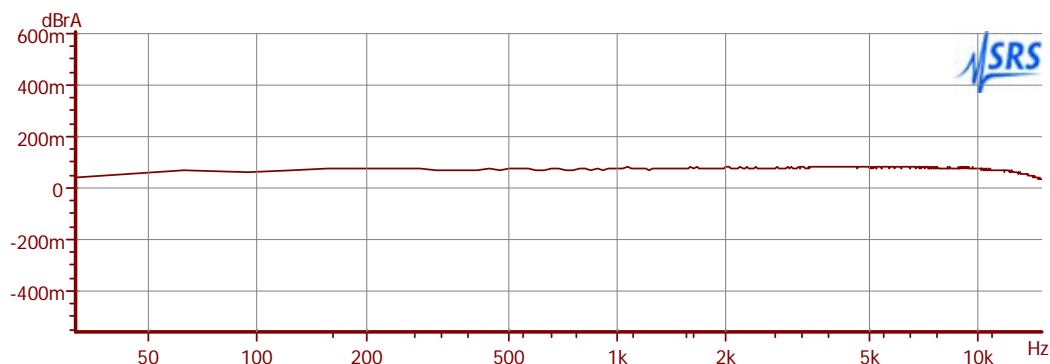

Figure 4-1: Typical Frequency Response, 30Hz to 15 kHz
- H) Using VR302, repeat steps (C) through (G) for the Right Analog Output.
- G) Verify that frequency response at 50 Hz, 100 Hz, 400 Hz, 5 kHz, and 15 kHz is within \pm 0.1 dB of the reference level. Figure 4-1 shows a typical result.